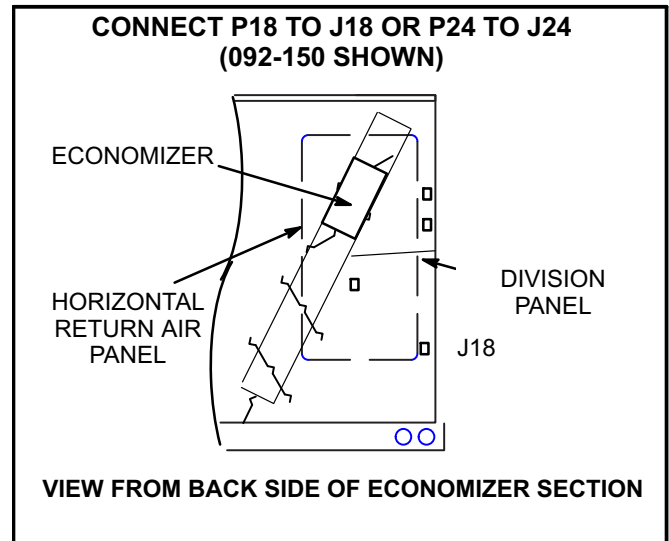

FIGURE 16
- 3- Reach through fan orifice and connect power exhaust fan P18 plug to unit J18 jack. J18 is located on the wall between the economizer and compressor section. See figure 16.